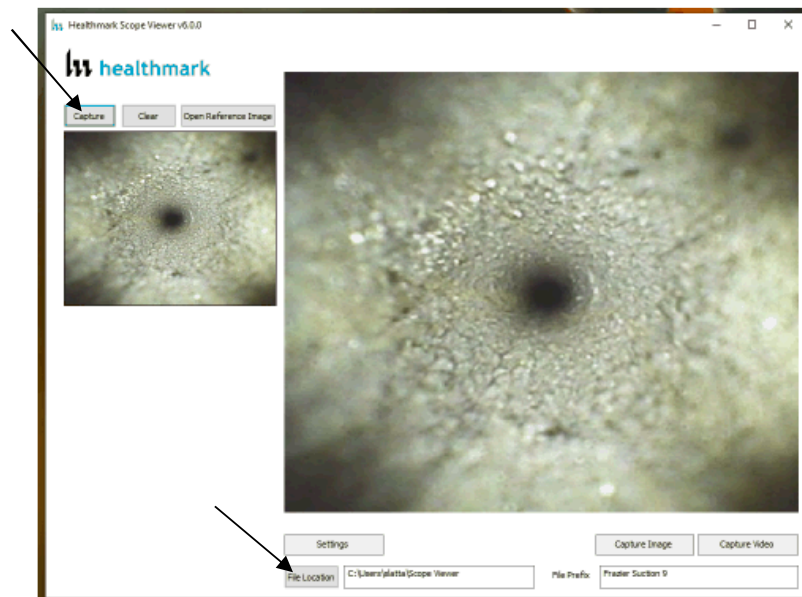

Figure 16
1. To display an image currently being displayed in the *Main Image Window*, click the *Capture* button. (Note: The images will be saved in a file folder titled **Reference Images** in the designated *File Location* specified in the *File Location* field. (**Fig. 16**).
- a. Click the *Open Reference Image* button (**Fig. 16 above**).